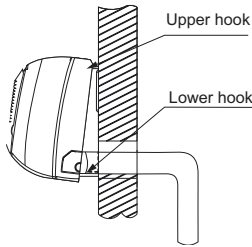

Fig. 15 — Indoor Unit Installation
7. Push the lower part of the indoor unit up on the wall, then move the indoor unit from side to side, up and down to ensure it is hooked securely (see Fig. 15).